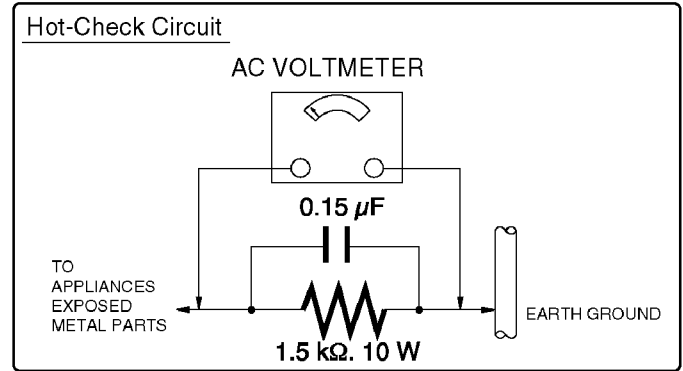

Figure. 1
(See Figure 1.)
2. Connect a 1.5 k $\Omega$ , 10 W resistor, in parallel with a 0.15  $\mu$ F capacitor, between each exposed metallic part on the set and a good earth ground, as shown in Figure 1.